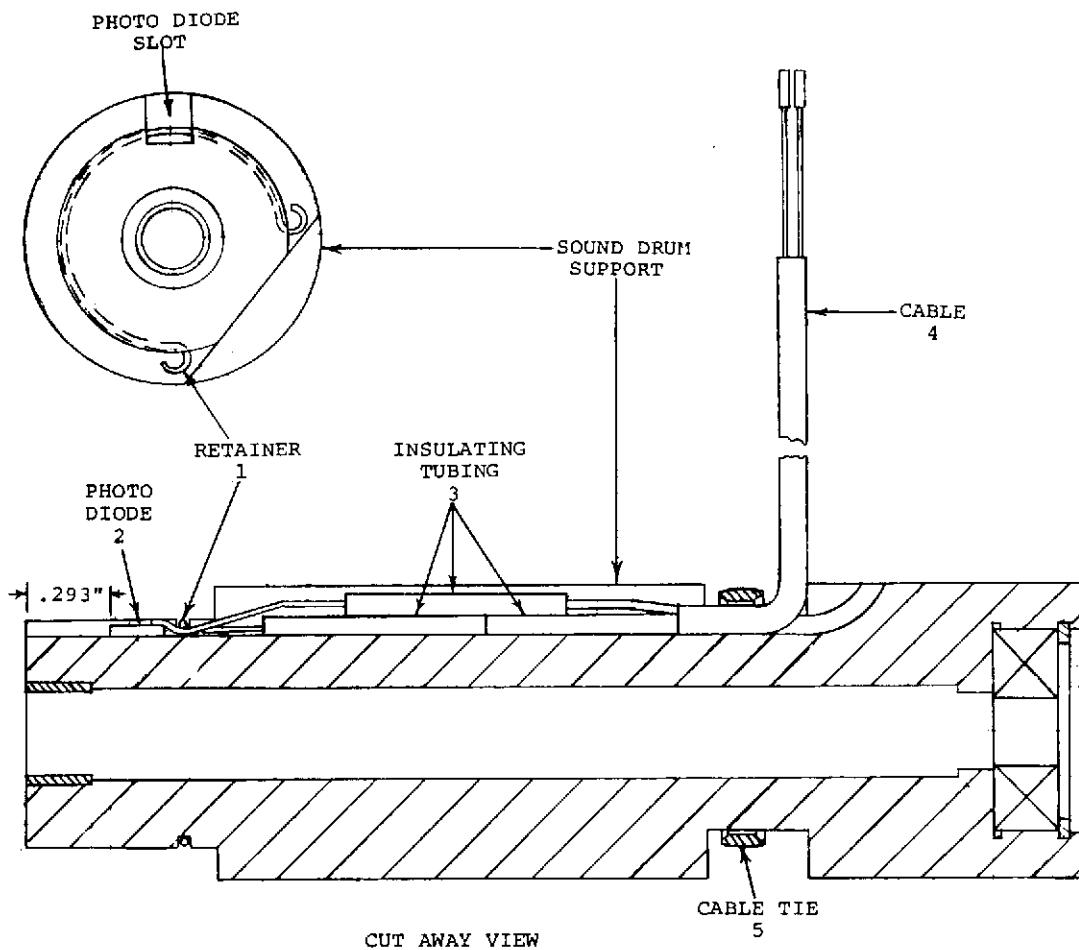

Figure 3-14. REPLACING PHOTO DIODE CHIP IN SOUND DRUM SUPPORT
Replacing Photo Diode Chip in Sound Drum Support (Figure 3-14)
2. Remove Retainer (1) Photo Diode (2) out of slot. Clip leads and discard Diode.
3. Remove Insulating Tubing (3) and unsolder remaining portion of Diode leads.
5. Position new Photo Diode into Slot with shiny, black surface up (red wire) and end aligned with mark made in Step 1. Assemble Retainer (1) to hold Photo Diode in place, orienting Retainer as shown in Figure 3-14. Make sure Photo Diode is perfectly flat in slot. (End of Photo Diode should be .293"--about 9/32"--from end of Sound Drum Support.) **PHOTO DIODE IS VERY FRAGILE. BE VERY CAREFUL NOT TO BREAK IT!**